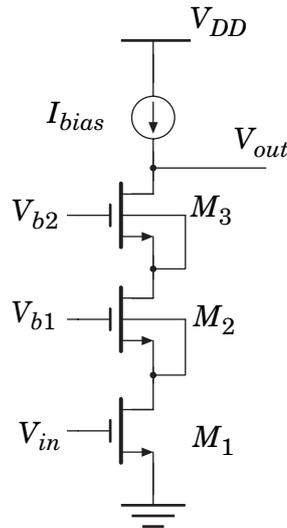

Figure 2.1 A CMOS gain stage.
A common source amplifier with two cascodes is shown in Figure 2.1 where V_{b1} and V_{b2} are bias voltages.
- a) Derive the DC gain of the circuit shown in Figure 2.1. (4p)